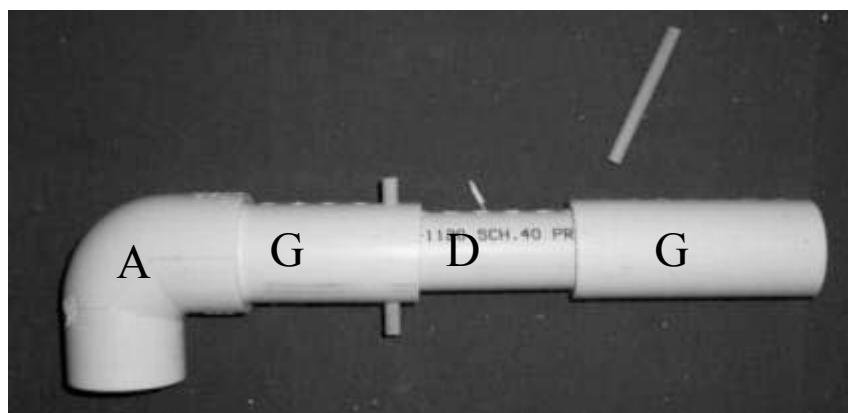

FIGURE 14 – Step 10 – Upper Rear Wheelchair Frame.
Step 10. Use clevis pins (or dowel rods if clevis pins are unavailable) to align the holes of two Part G components with Part D as shown in Figure 14.